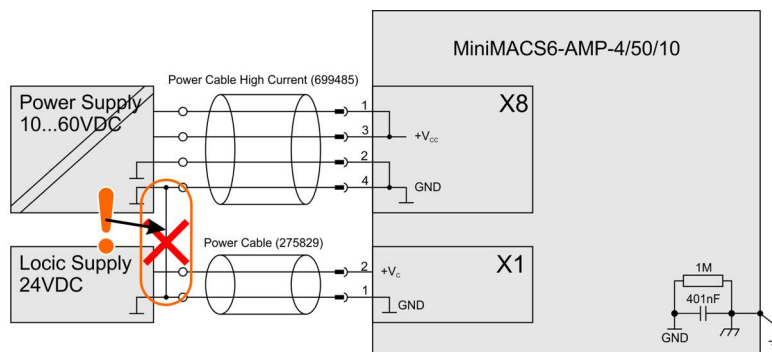

Figure 4-39 Power & logic supply
**Power supply & optional logic supply** ..... Figure 4-39